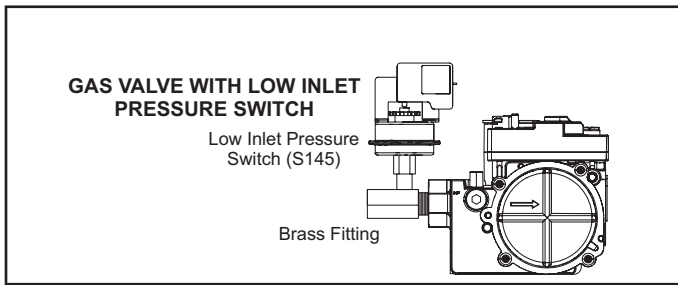

Figure 1
- 4 - Remove the screw that secures the burner box front cover and remove front cover. See figure 1 or 2.
- 8 - Thread provided brass fitting to gas valve inlet until hand tight. Using properly sized wrench, tighten fitting 2 to 3 full turns being careful to position the side port to allow clearance for the pressure switch and harness. See figure 1.